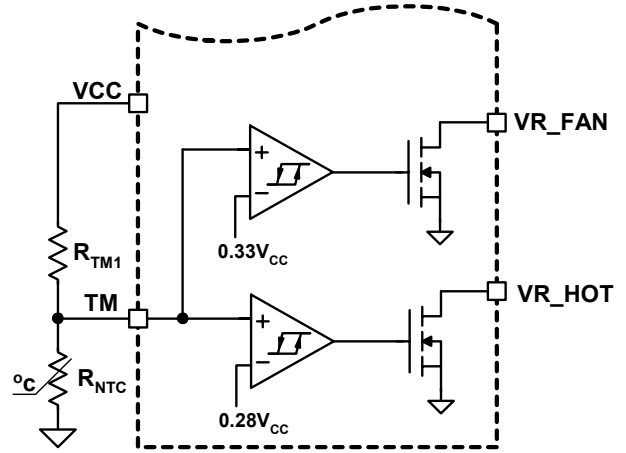
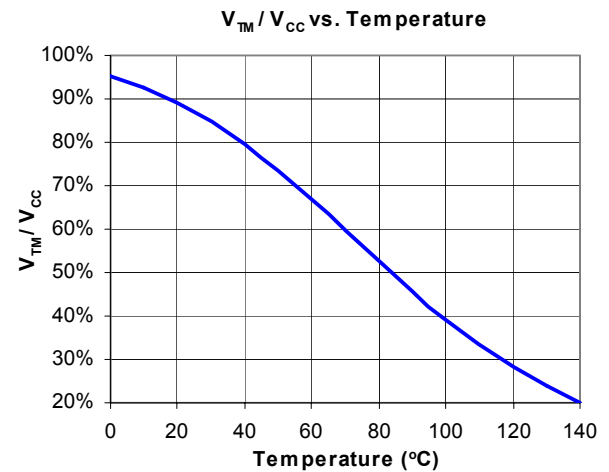

FIGURE 15. BLOCK DIAGRAM OF THERMAL MONITORING FUNCTION
FIGURE 16. THE RATIO OF TM VOLTAGE TO NTC TEMPERATURE WITH RECOMMENDED PARTS
The diagram of thermal monitoring function block is shown in Figure 15. One NTC resistor should be placed close to the power stage of the voltage regulator to sense the operational temperature, and one pull-up resistor is needed to form the voltage divider for TM pin. As the temperature of the power stage increases, the resistance of the NTC will reduce, resulting in the reduced voltage at TM pin. Figure 16 shows the TM voltage over the temperature for a typical design with a recommended 6.8kΩ NTC (P/N: NTHS0805N02N6801 from Vishay) and 1kΩ resistor RTM1. We recommend using those resistors for the accurate temperature compensation.
Based on V_{CC} voltage, ISL6307B converts the TM pin voltage to a 6-bit TM digital signal for temperature compensation. With the non-linear A/D converter of ISL6307B, TM digital signal is linearly proportional to the NTC temperature. For accurate temperature compensation, the ratio of the TM voltage to the NTC temperature of the practical design should be similar to that in Figure 16.
Depending on the location of the NTC and the air-flowing, the NTC may be cooler or hotter than the current sense component. TCOMP pin voltage can be utilized to correct the temperature difference between NTC and the current sense component. When a different NTC type or different voltage divider is used for the TM function, TCOMP voltage can also be used to compensate for the difference between the recommended TM voltage curve in Figure 16 and that of the actual design. According to the V_{CC} voltage, ISL6307B converts the TCOMP pin voltage to a 4-bit TCOMP digital signal as TCOMP factor N.
1. Properly choose the voltage divider for TM pin to match the TM voltage Vs temperature curve with the recommended curve in Figure 16.